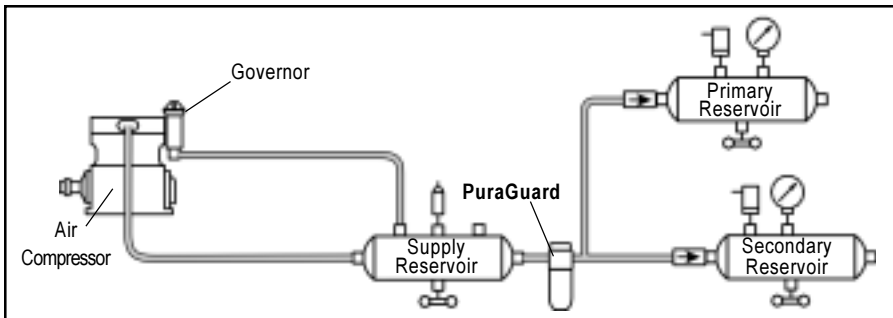

FIGURE 3 - PURAGUARD INSTALLATION - SYSTEM WITHOUT AIR DRYER
- (b) **For vehicles without air dryers**, install the PuraGuard downstream of the Supply reservoir (wet tank) (see Figure 3). Both the Primary and Secondary reservoirs will receive their air supply from the discharge of the PuraGuard and depending original vehicle hose arrangement, extra fittings may be required.